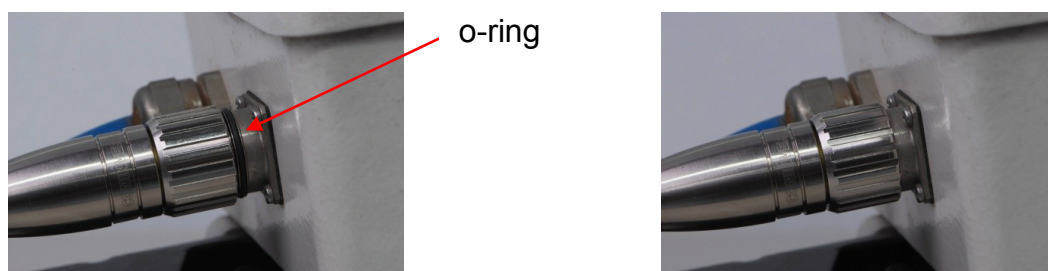

Figure 9: Control cable connector
5. Connect the control cable between RCPD and Junction Box. Ensure that the nut cap is tightly screwed, if the black o-ring is visible the connection will not be waterproof (see Figure 9).